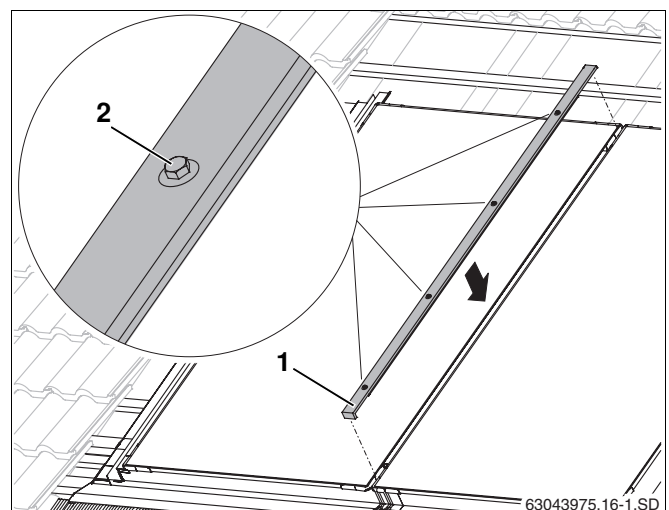

Fig. 49 Middle cover strip
- Press cover strip (Fig. 49, **Item 1**) with the folded edge facing downwards into the gap between the two collectors and make sure it is centrally positioned.
- Using size 8 spanner, tighten screws (Fig. 49, **Item 2**) by hand, beginning at the bottom.